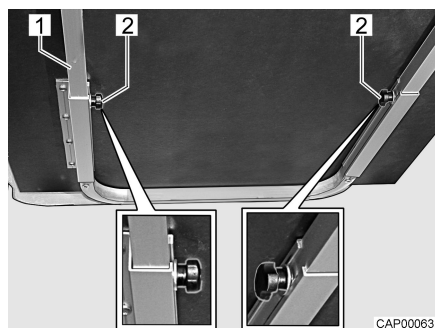

Fig. 27 Moving/extending the suspension table
- Loosen the knurled screws (Fig. 27,2).
- Lift the table top slightly and pull out as far as possible. The table extension (Fig. 27,1) is fully extended.
- Lift the table top slightly and push back as far as possible. The table extension (Fig. 27,1) is fully retracted.